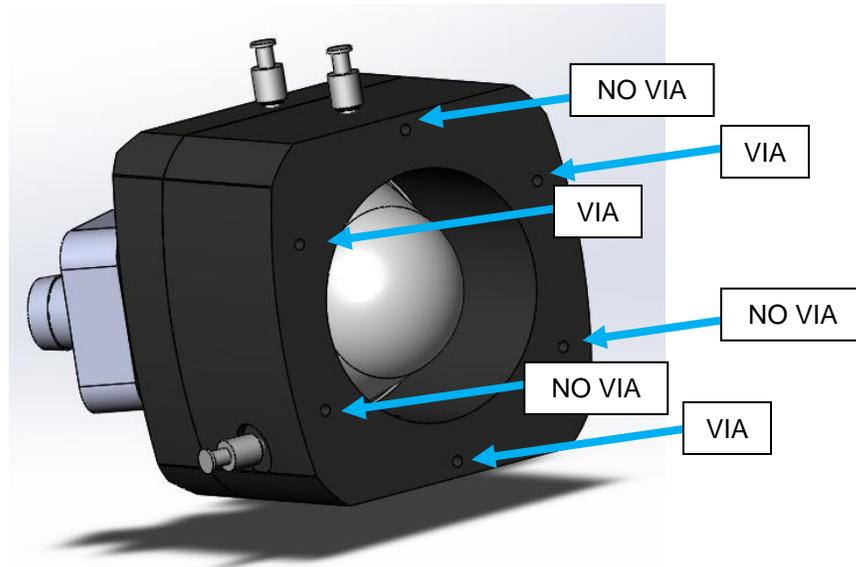

Figure 6 – Pump Head mounting fastener locations
5. Connect the Pump Head with the 3 fasteners from step 4 (indicated below if using a VIA) or step 2 (indicated below if NO VIA is used) as shown in Figure 6 below. Ensure the two Luer fittings are facing up as shown below.